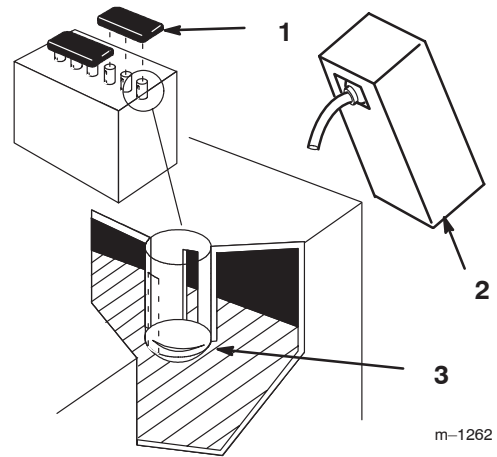

Figure 8
- Remove filler caps from the battery. Slowly pour electrolyte into each cell until the electrolyte level is up to the lower part of the tube (Figure 8).
5. Slowly pour electrolyte into each cell until the level is once again up to the upper line on the battery case (Figure 8) and install covers.